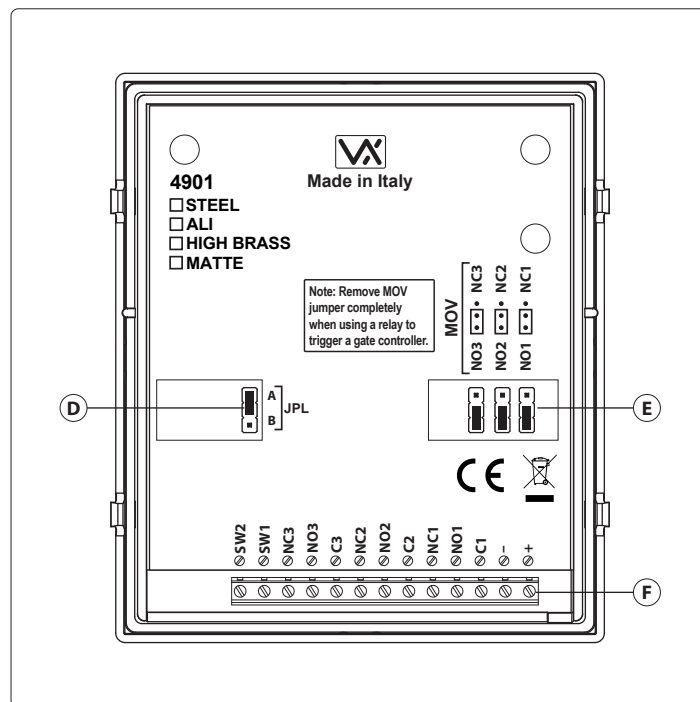

Fig. 2 Back
The jumper JPL (**Fig. 2, ⑤**) is used to adjust the brightness and determine the operation of the backlit buttons. There are four brightness settings for the backlit buttons and two programming modes (Mode 1 and 2) for the jumper.